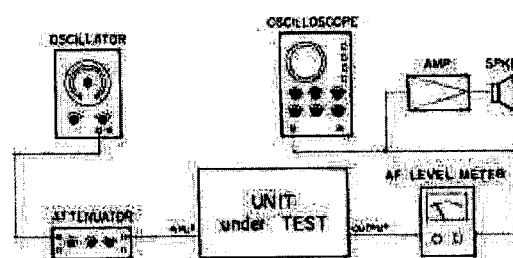

Fig. 9-7-9. Level or Frequency Response Measurement Set-up
1. Connect the test equipment to CH1 INPUT and CH1 OUTPUT as shown in Fig. 9-7-9.